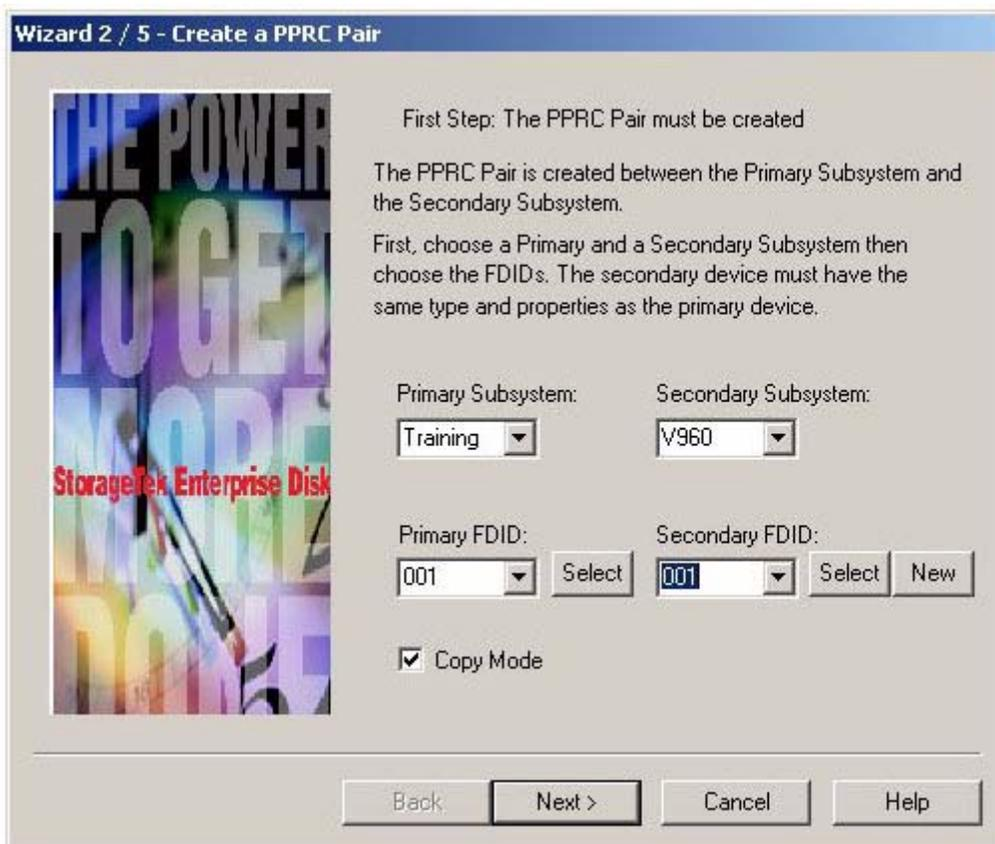

Figure 15 Primary and Secondary Subsystem Selection
4. The dialogued box of Figure 15 appears. Select the primary and secondary subsystems and their FDIDs.